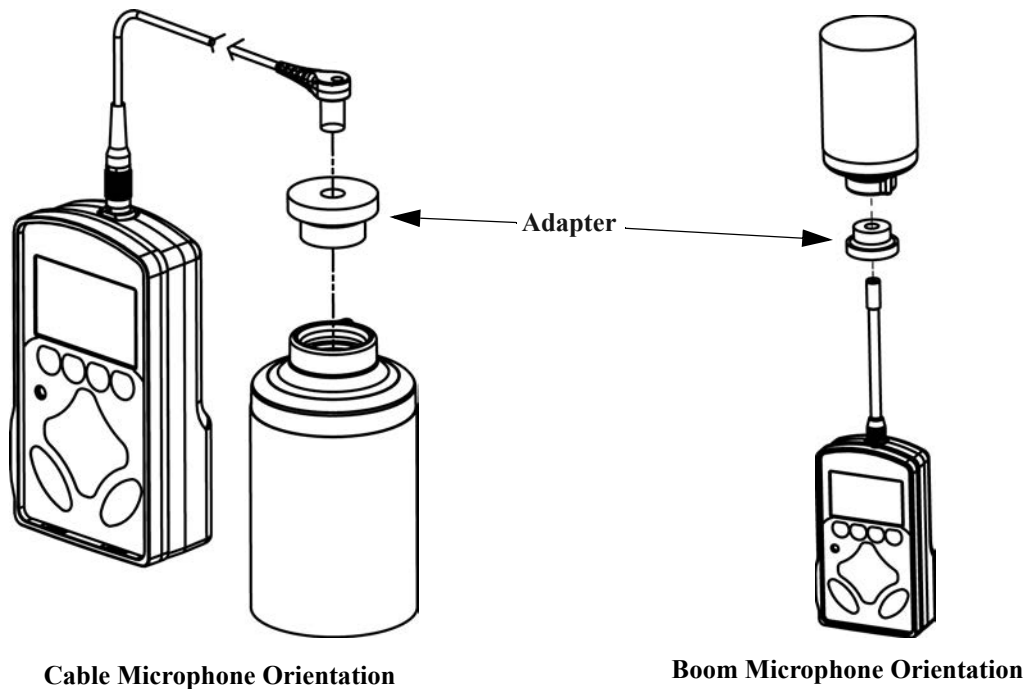

Figure 3-1: Calibration orientations and assembly
Refer to Figure 3-1 for either the cable-mounted or boom-mounted (type 2 only) microphone. Type 1 and type 2 microphones require different adapters.
3. Orient for either the cable-mounted or boom-mounted microphone as illustrated in Figure 3-1, then press the adapter into the calibrator.